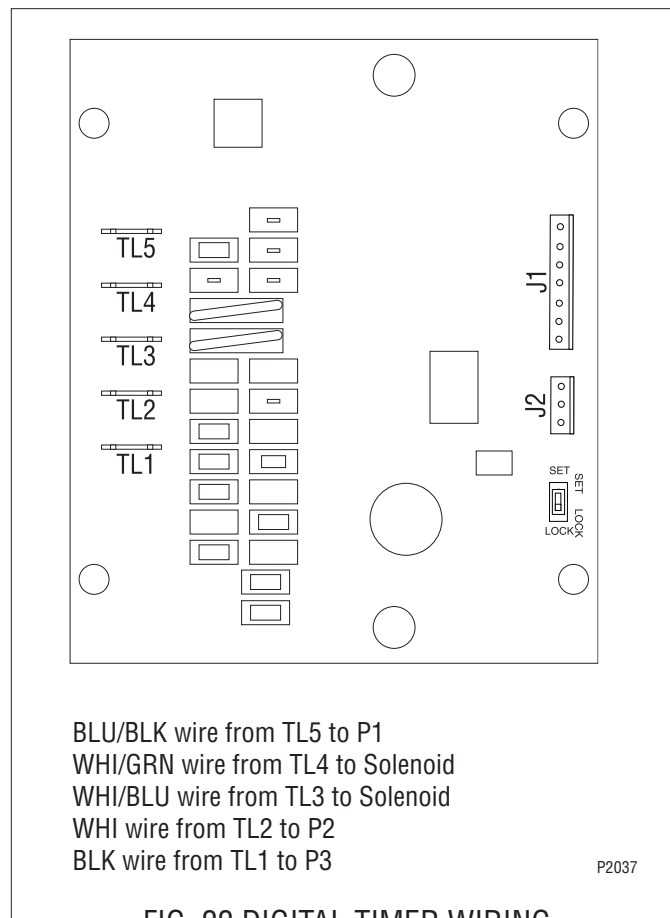

FIG. 22 DIGITAL TIMER WIRING
4. Refer to Fig. 22 when reconnecting the wires.
4. Attach all wires to the replacement timer board prior to installation to the component mounting bracket. Refer to FIG. 22 when reconnecting the wires.